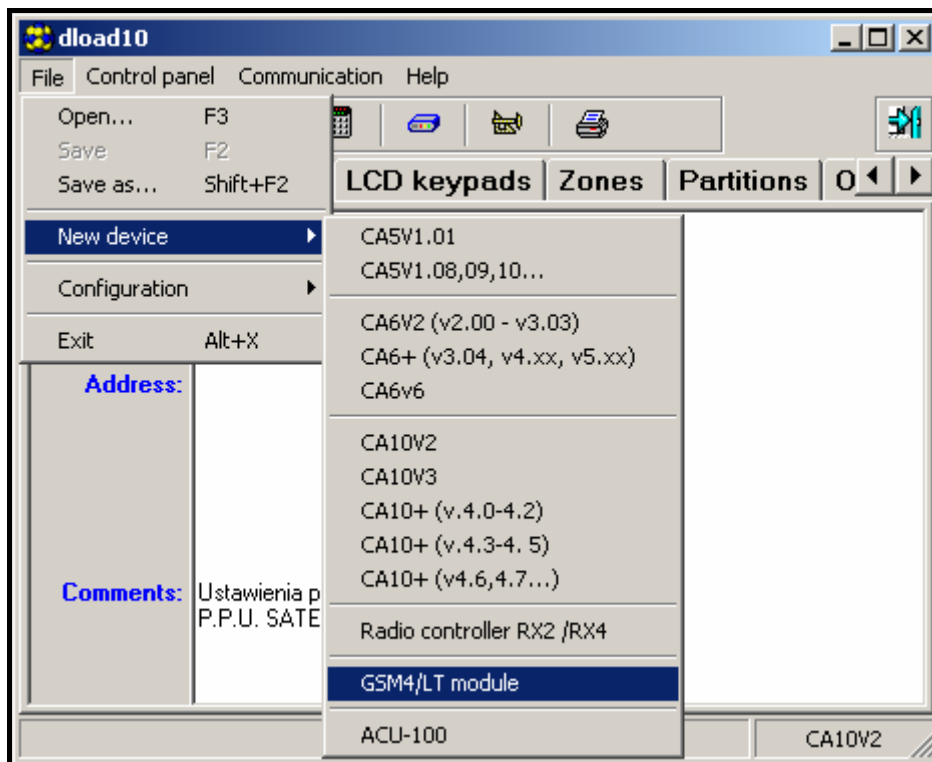

Figure 9.
2. Open the window with module data by selecting **File**→**New device**→**GSM4/LT module** in the program menu (see figure 9).